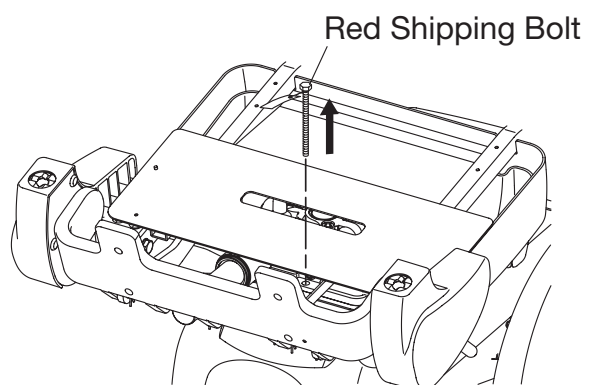

Figure 3
- 4) Before attaching chair to the electrical power source, remove red shipping bolt from the seat structure using a 13mm socket. (See Figure3.)